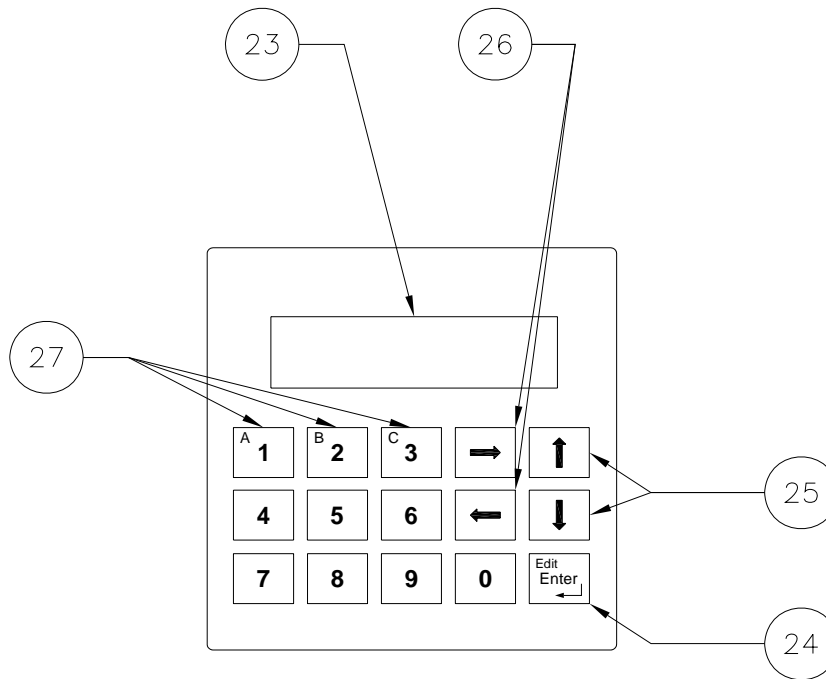

Figure 4, Controller Interface
2.4 Controller Interface, refers to Figure 4
4.3 Controller Menu Navigation, Refers to Figures 4 and 5